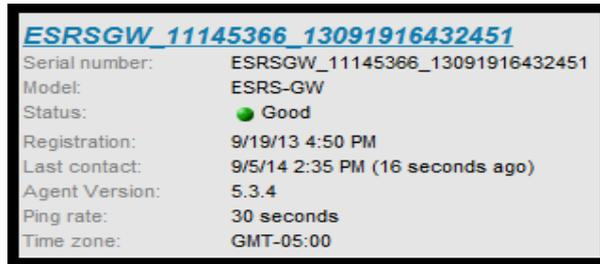

Figure 132 Example of source gateway serial number on ServiceLink
1. The first step is to determine the source gateway or virtual edition serial number. You can determine this information from the Gateway Configuration Tool or the SRS GUI Dashboard, but for the backend migration, you can determine all necessary information from the SRS Portal or ServiceLink (ESRS.EMC.com), as shown in Figure 132 on page 114.